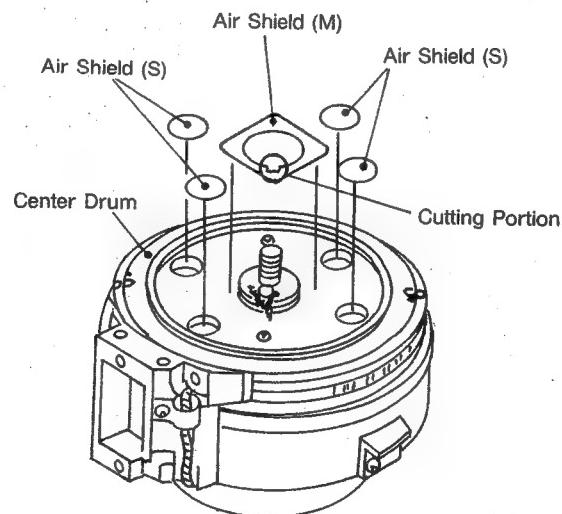

Fig. 7-9-1
7-9. Put 4 pcs of air shield(S) and 1 pc of air shield (M) on the Center Drum Unit as shown in figure 7-9-1.